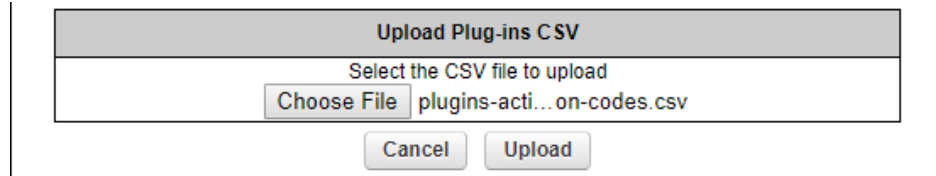

Figure 72. MANAGE PLUG-INS DIALOG (Upload Plug-ins CSV section)
7. Upload the *.CSV file to the unit by clicking the **Choose File** button in the **Upload Plug-ins CSV** section (Figure 72 (page 153)) and following the software prompts.